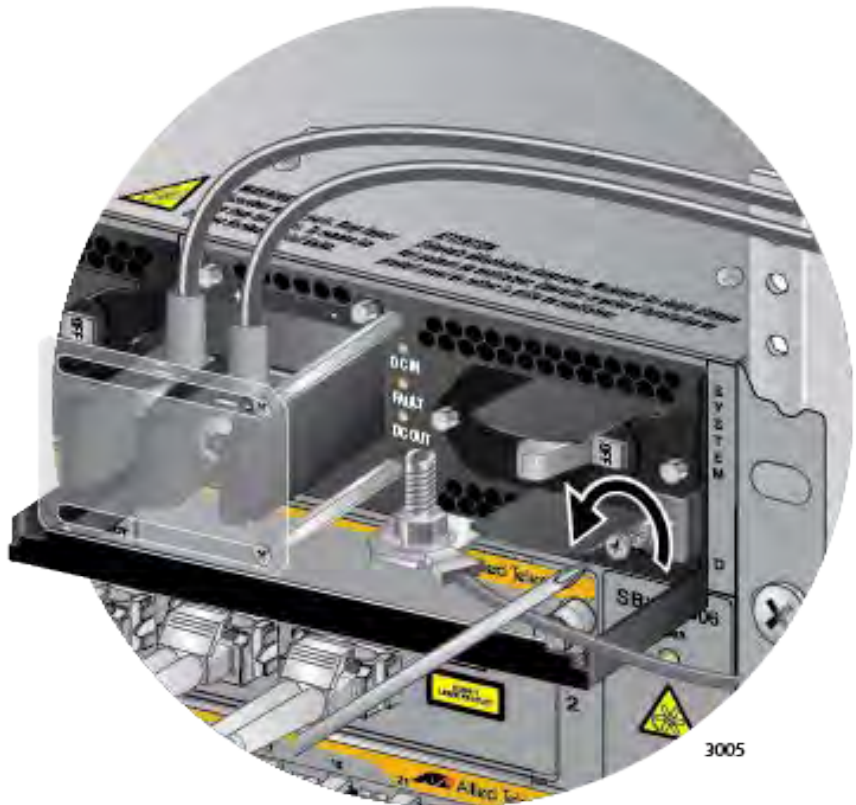

Figure 164. Loosening the Screw on the Locking Handle
3. Use a #2 screwdriver to loosen the screw on the locking handle. Refer to Figure 164 on page 267.